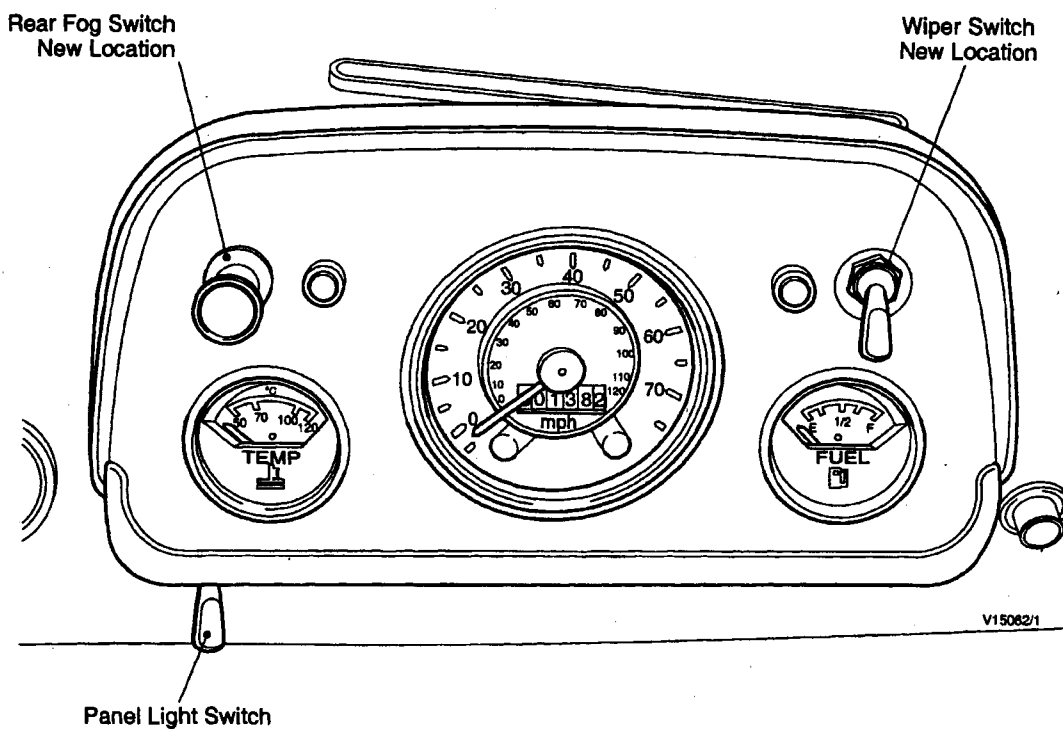

Fig 1 New instrument panel showing new location of switches
6.3 Remove blanking plugs and fix the rear fog light switch, wiper switch and panel light switch in the positions shown in Fig 1.